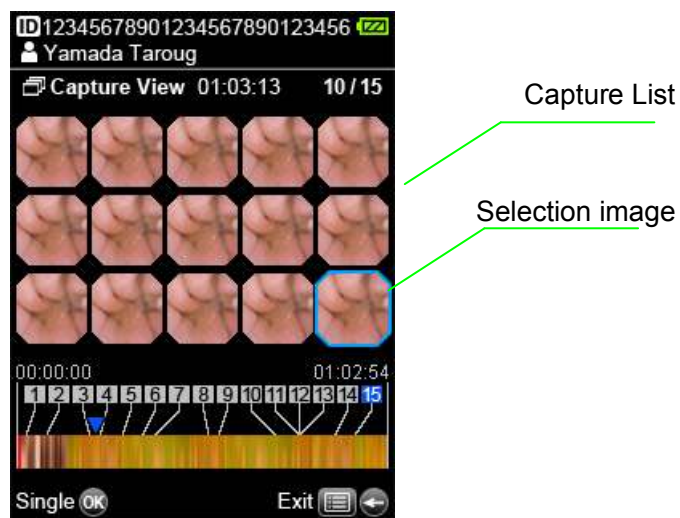

Figure 4.34
3. The images which are captured are displayed. The chosen image is surrounded in a blue line. (Refer to Figure 4.34)